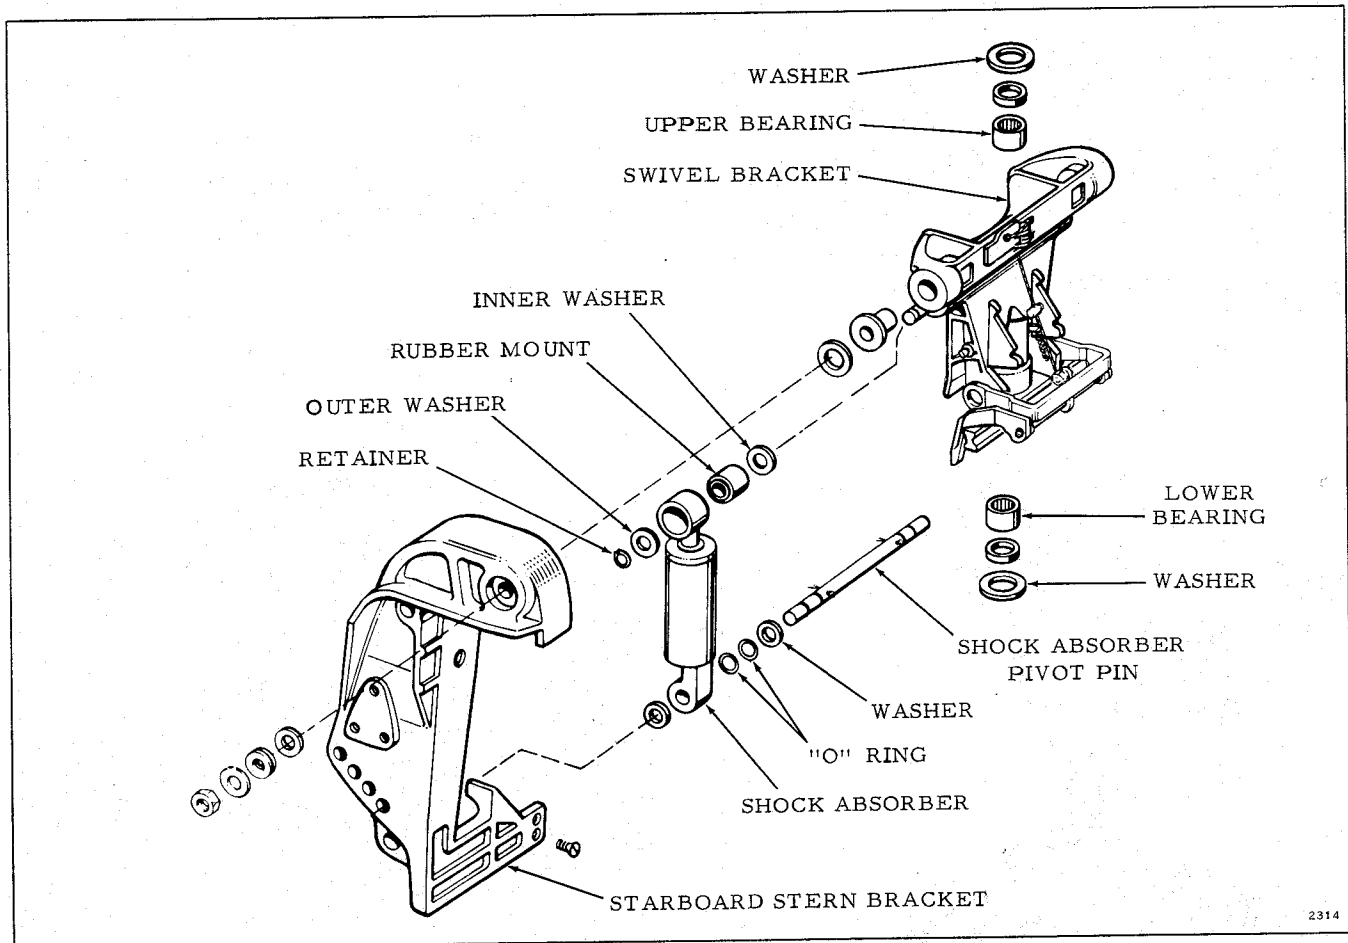

Figure 6-11. Stern Bracket Disassembly
c. Remove retaining rings and washers holding shock absorbers to swivel bracket. Pull stern brackets and shock absorbers off of swivel bracket and pivot pin. See Figure 6-11.